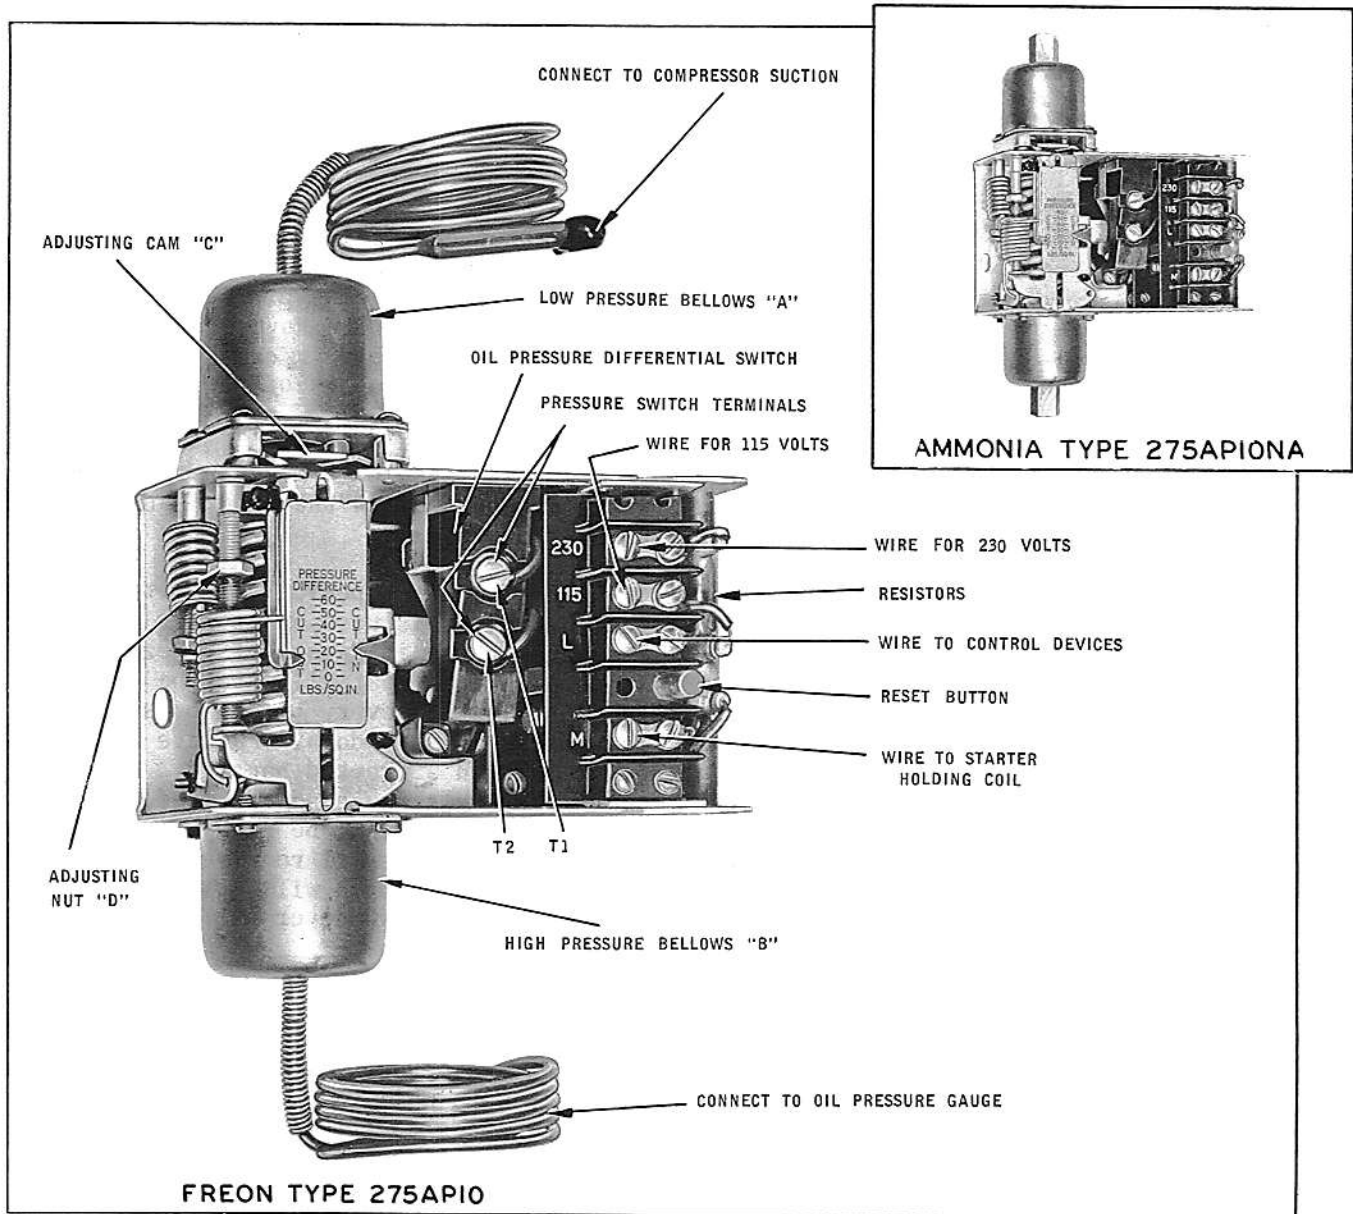

Fig. 16 - Oil Pressure Failure Switch
The Penn Type 275AP10 Freon oil pressure failure switch (See Fig. 16) operates on the difference between suction pressure and
- (b) Connect a jumper between the pressure switch terminals. (See Fig. 16)